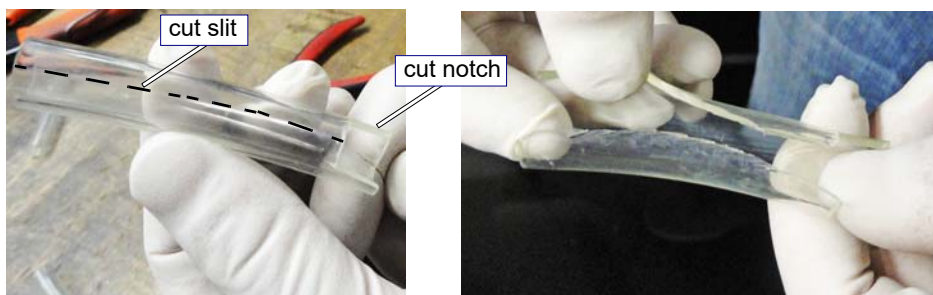

Figure 82
- a. Cut out a notch from one end of the **tubing** (Figure 82).